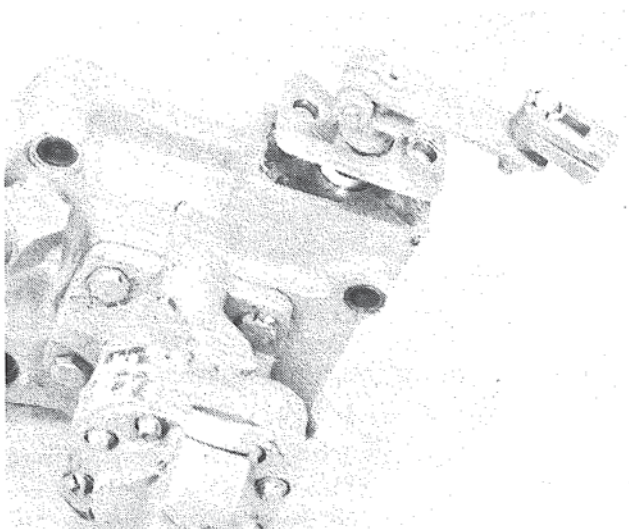

Figure 40. Installing Valve.
3. Secure the valve stem in the valve body with the detent plate and two (2) hex head cap screws (5/16-18 x 3/4). Figure 40. Tighten the cap screws to 5-17 ft. lbs. (.69 - 2.34 kg/cm) torque.